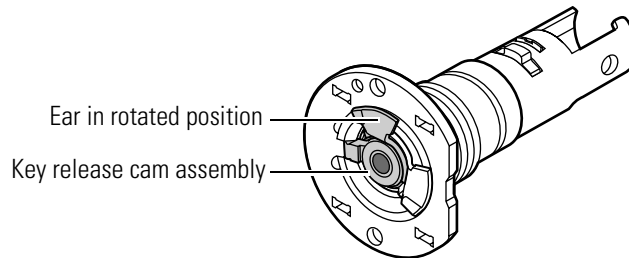

Figure 3.19 Removing the key release cam assembly
3. Rotate the ear on the key release cam 45 degrees and pull the key release cam assembly out of the sleeve, as shown in Figure 3.19.